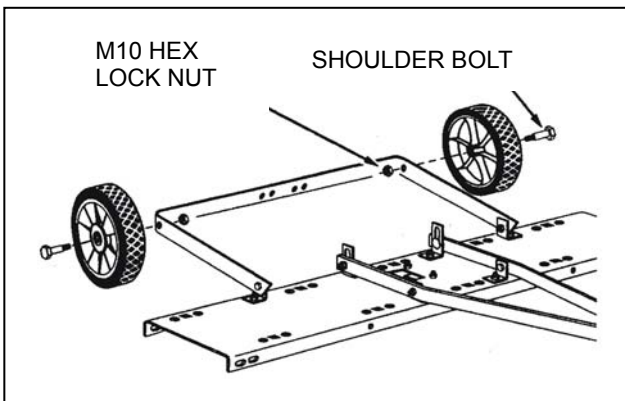

FIGURE 6
12. Assemble the wheels to the axle bracket using two shoulder bolts and two M10 hex lock nuts. Tighten. See figure 6.